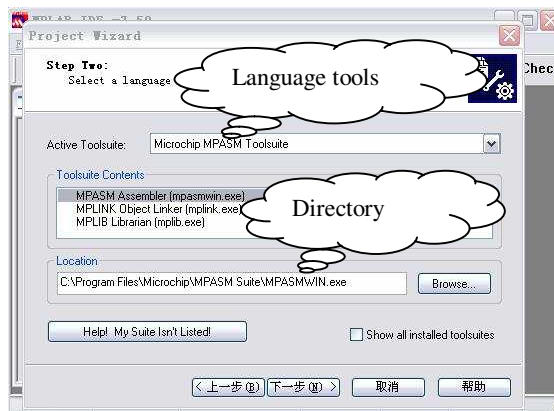

Figure 2-6 Choose compiler tools
Step 3, click "Next", select the appropriate compiler tools according to the source language and chip to be used, as shown in Figure 2-6.